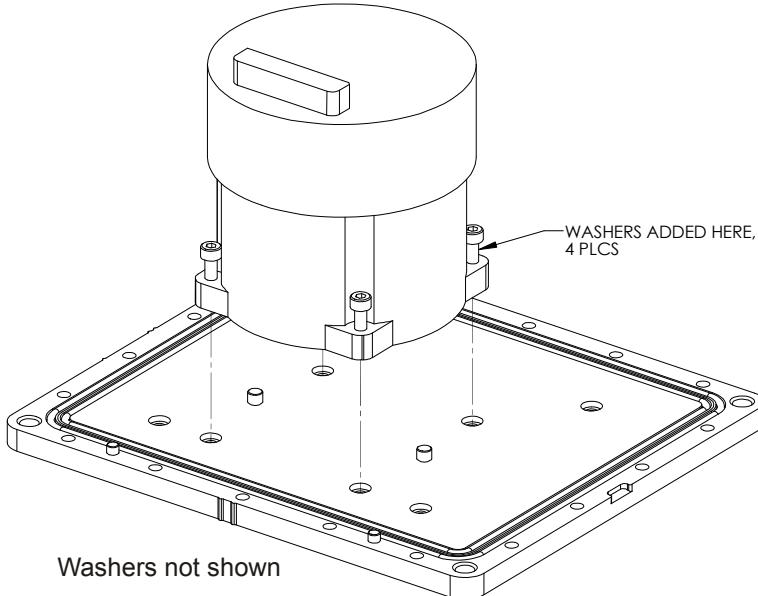

Figure 68: Install LN-200 IMU to Base
1. Using a 3 mm hex bit, remove original captive 6-32 screws and washers (4 each) from the LN-200 IMU. Add three washers under each of the original washers and fasten the IMU to the enclosure base, as shown in *Figure 68*. Use thread-locking fluid on each screw.